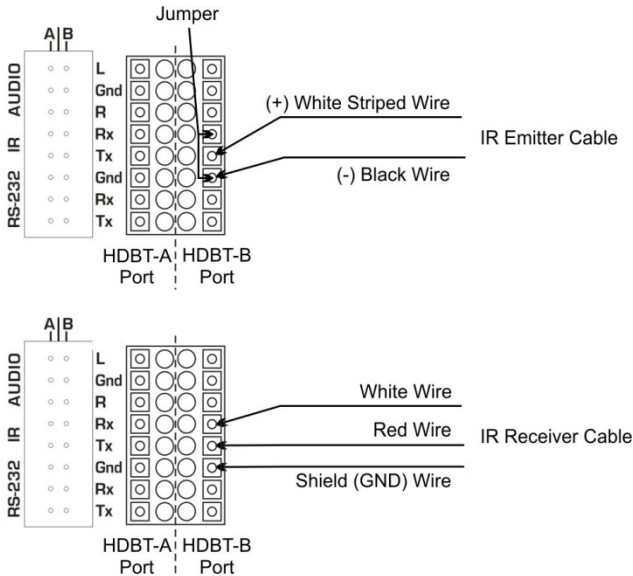

Figure 13: Connecting IR Emitter / Receiver to the HDBT-B Port
- Using the supplied terminal block connector, connect an IR emitter / receiver according to the wiring scheme in Figure 13: